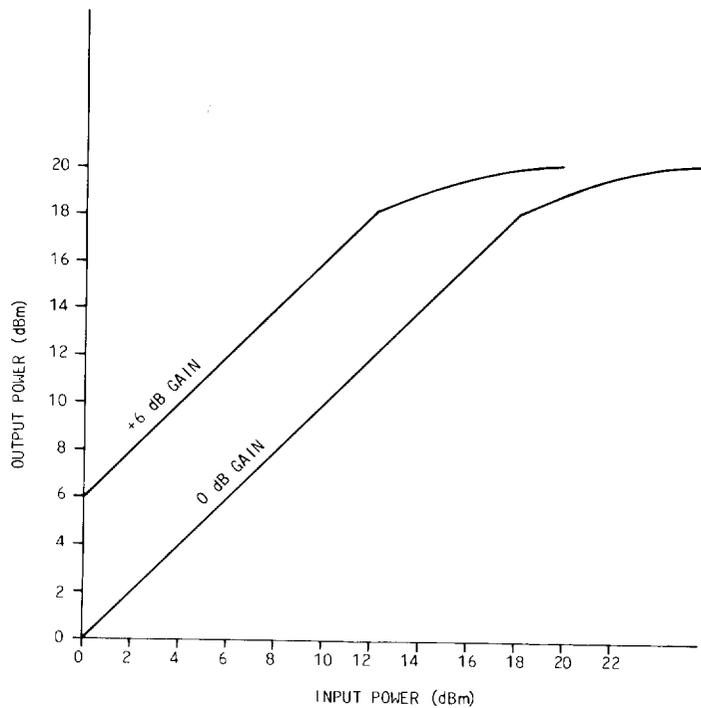

Fig. 17—Output Power Capability of J99343SA and SB Repeaters
6.05 Figure 17 shows the output power capability of the J99343SA, SB repeaters. The output power is determined by the input power and repeater gain as shown by the +6 dB gain line in the figure. Power limiting occurs in this unit at about +18 dBm.